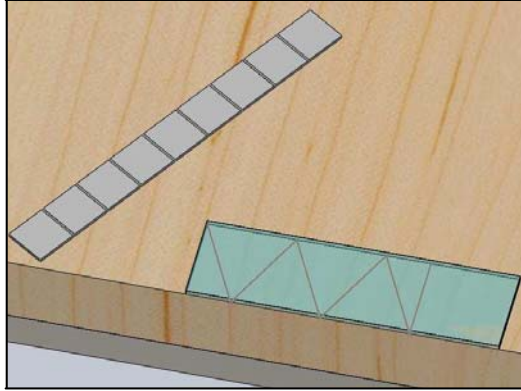

Figure 2: All five pieces drawn on glass piece
Step 2: Lay out the five pieces on the 2" x 7" piece of glass using a **Straight Edge**, **Marker**, and the dimensions shown in **Drawing 2** (page 3) and Figure 2.